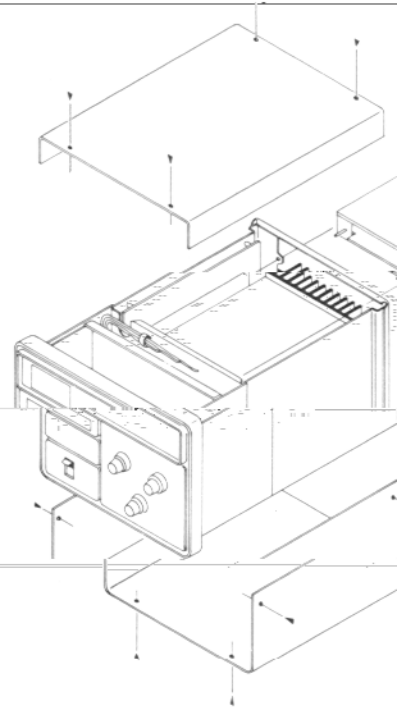

Figure 1
shown in Fig. 1.
On P10101, remove the connection cable and install the connection cable (Part 11101) shown in Fig. 1. The connection cable should be installed in the OX terminal as shown in Fig. 1.
1. Remove the twelve screws affixing the top and bottom covers of the FTV-901R, and remove the covers (Figure 1).